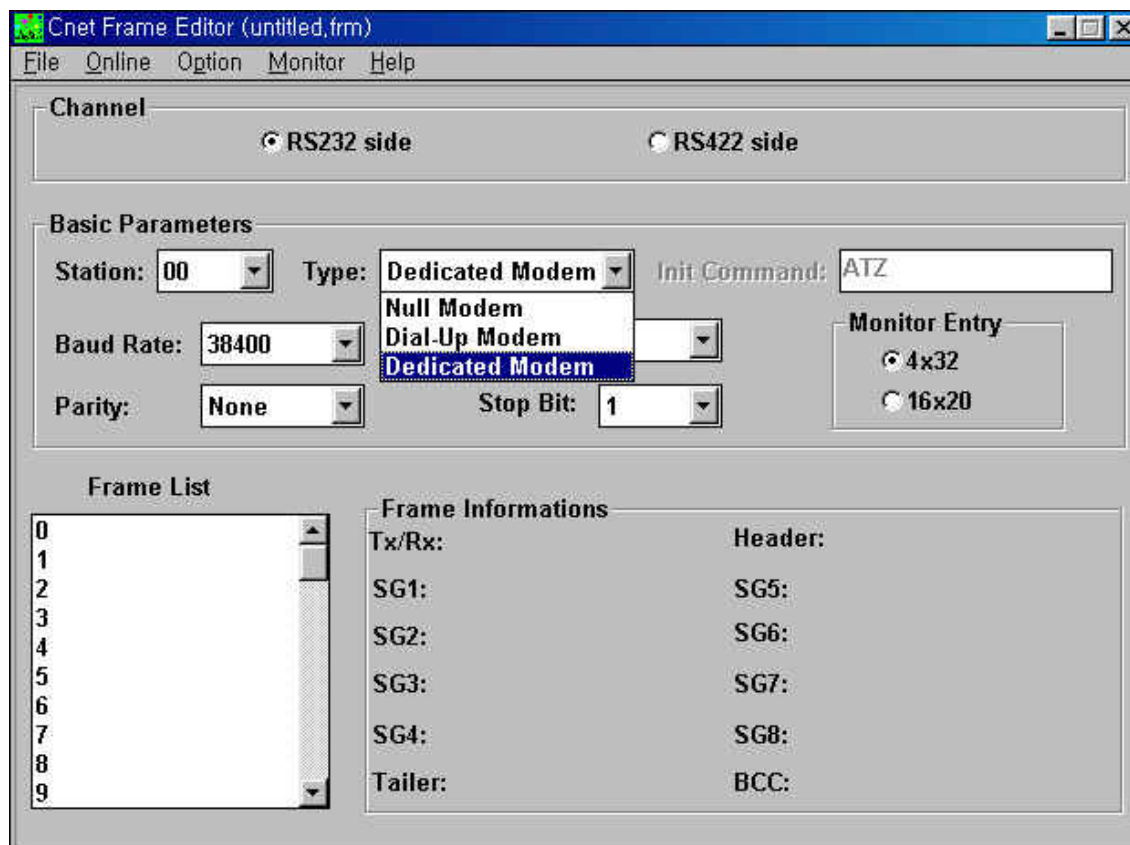

Fig. 8.10 Dedicated modem setting screen of frame editor
- ① Click the frame editor icon in widow.
- ② Select communication channel to RS-232C, set communication type to modem in basic parameter setting items of Figure 8.10, and set transmission specifications such as communication speed and data/stop bit. This must be the same as the transmission type set for dedicated modem.
- ③ Set communication type to dedicated modem in basic parameter setting.(Default is null modem.)
- ④ If connection is selected in on-line menu of frame editor, connection completion box as follows is displayed after the completion :
- ⑤ If, after connection completion on-line menu, writing is selected, the following dialog box is displayed. At this time, select basic parameters in communication option, select the slot number which Cnet module is mounted, and click on the writing button.